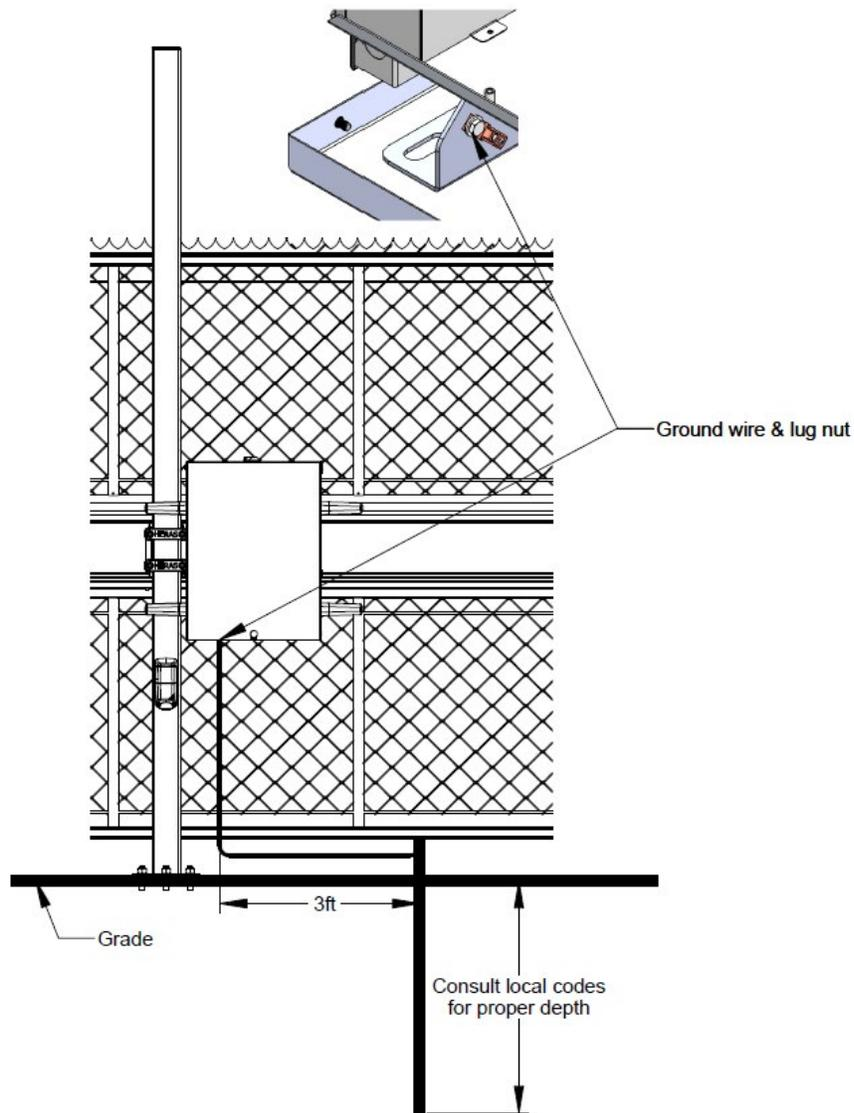

Figure 15. Installing Grounding Rod
1. **Install a grounding rod per local building codes. See Figure 15.**